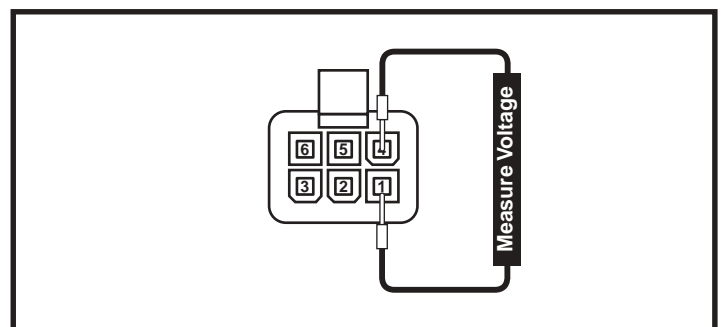

Figure 10. Connector 2a
14. Measure voltage across pin 1 and pin 4 of connector 2a. **See figure 10.**
- If your multimeter indicates 0VDC, then replace the power module (2) and retest the system.